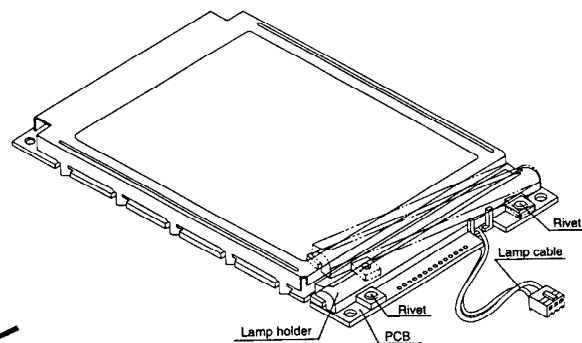
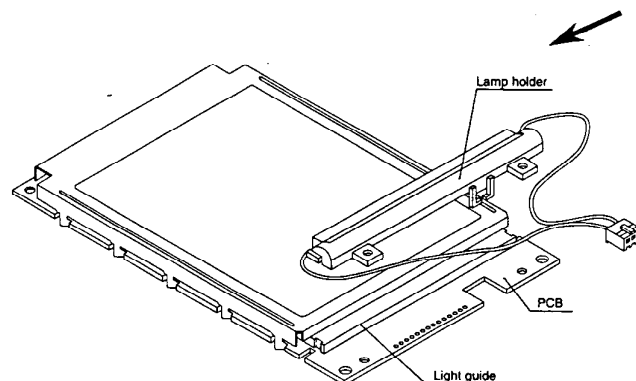

Figure 19
Figure 20
- (1) Turn off the power.
- (2) Remove the lamp cable from the backlight power supply of the inverter.
- (3) Loosen the cable that is secured by the hook on the lamp holder.
- (4) Remove the two plastic rivets that secure the lamp holder to the circuit board. Push on the tip of the rivets to loosen them, and then pull them out. Because the rivets are made up of two pieces that come apart when you remove them from the circuit board, take precautions not to lose any part of the rivets.
- (5) The lamp holder is clamped on to the light guide in two places. While holding the board with your fingers so it does not move, first, wedge a flat-head screwdriver into the space between the board and one end of the lamp holder; next, very gently pry it loose (do not force it) from the fittings (Fig.19) ; then, repeat the procedure on the other end; and remove the lamp holder (Fig.20).